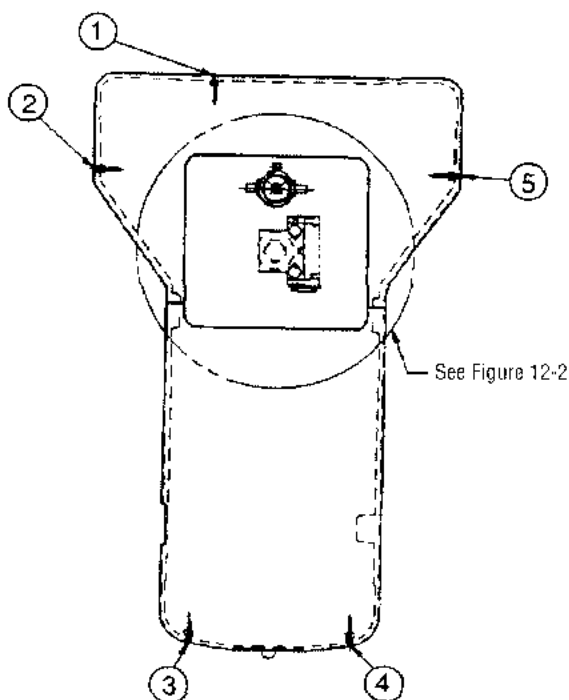

Figure 12-1. Bumper Positioning
1. If replacing the bumpers, apply Loctite 222 to the threads and assemble into the base casting as shown in Figure 12-1. Bumpers 1 and 2 should protrude $5/16" \pm 1/32"$ (8 mm ± 0.8 mm) from the casting, and the other three should be flush with the casting.